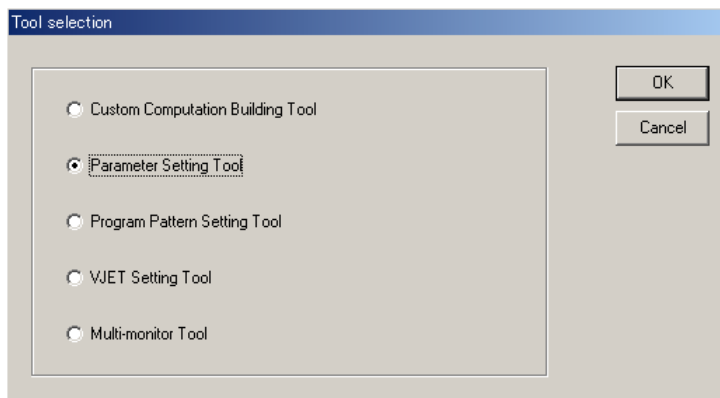

Figure 3.1.1 Tool Selection Dialog Box
- (1) Start Windows.
- (2) From the **Start** menu of Windows, point to **Programs**, then **Green Series**, and click **Green Series LL100**.
- (3) LL100 then starts and the Tool Selection dialog box (Figure 3.1.1) appears. (For LL200, "Custom Computation Building Tool" appears at the top of dialog box.)